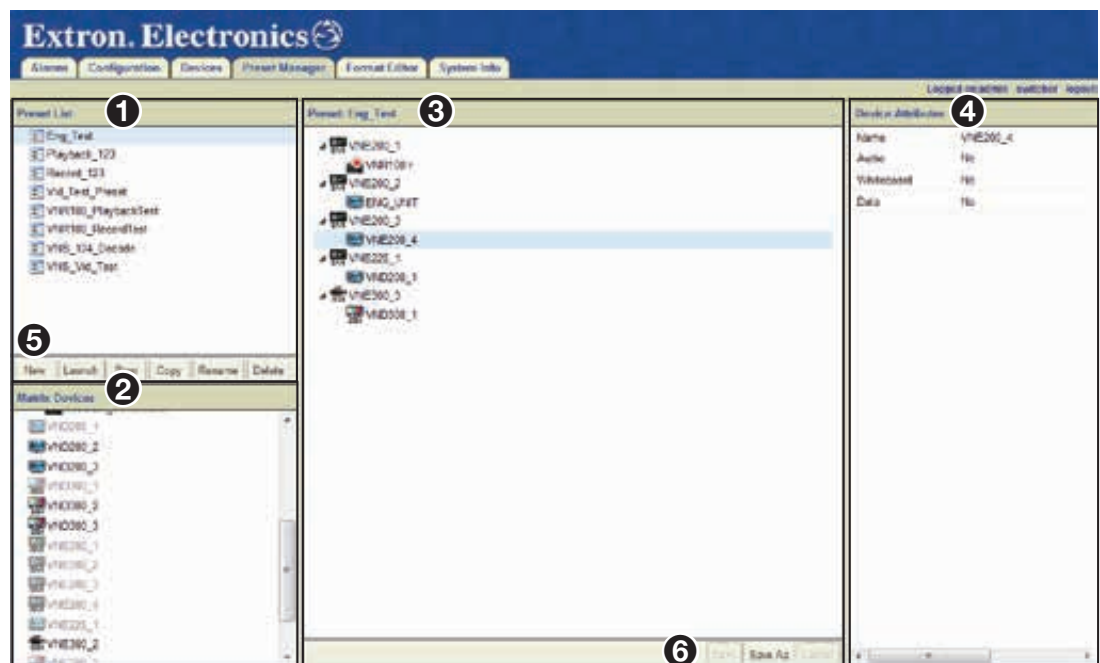

Figure 77. Preset Manager Page
Click the **Preset Manager** tab to open the page (see figure 77).
The **Preset List** panel (see figure 77, ❶ on the previous page) provides management and control of the system presets from the preset list toolbar and provides a way to quickly reconfigure devices.
- Devices assigned to the currently selected preset appear dim in the list. Note the difference between **device11212054**, not assigned in the selected preset, and **device11212060** and also **device11212070** below it (see figure 77 on page 92), which are both assigned.